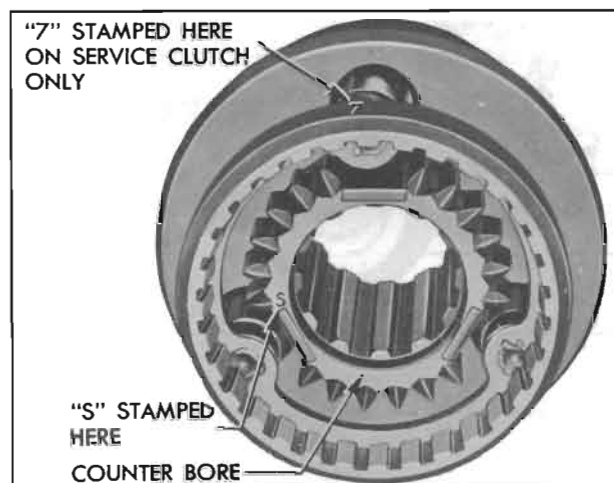

Figure 4-24—Counterbore and Marks on Second Speed End of Clutch
(10) *Synchronizing Clutch.* The synchronizing clutch must be installed with the counter-bored end toward the second speed gear to insure full engagement of clutch with gear and avoid slipping out of second speed. The second speed end of clutch is stamped with a letter "S." Gear synchronizing clutches furnished for service have a figure "7" (to indicate 7° angle) stamped on the second speed drum. Do not use replacement clutch having any other number stamped on drum. See figure 4-24.